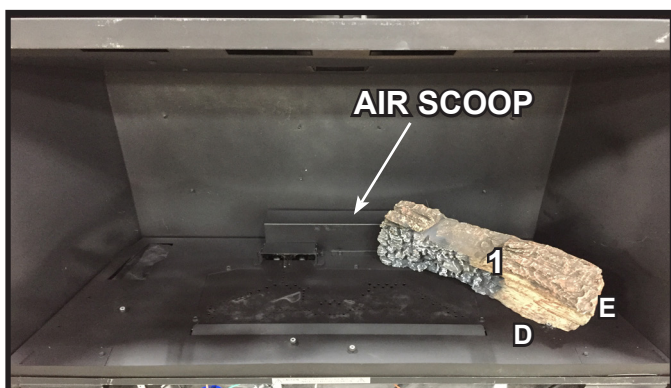

Figure 9 Log #1 Installed
**LOG #1:** Place right end of log 1 on the base pan between log pins D and E. Rotate the log until the left end of the log contacts the air scoop. See Figure 9.